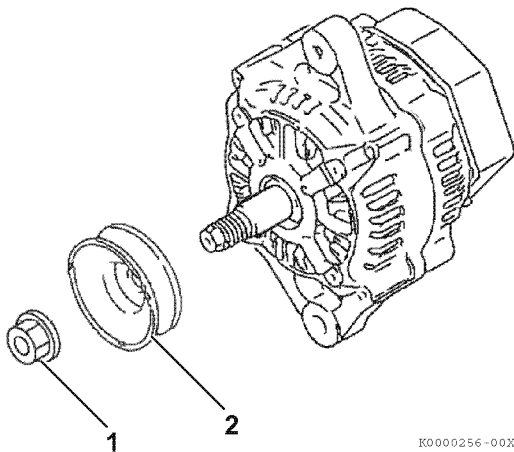

Figure 11-18
11. Assemble the pulley (**Figure 11-18, (2)**) and nut (**Figure 11-18, (1)**) to the shaft of the rotor assembly. Tighten the nut.